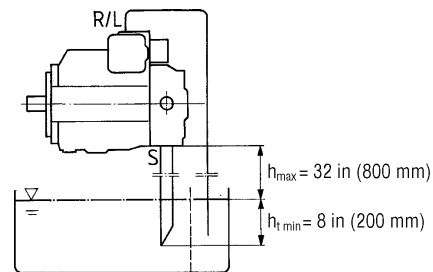

Fig. 4
b) If the minimum fluid level falls below the upper point on the pump: The leakage port and possibly the suction port are to be piped according to the fig. 4. The requirements in point 1.2. are to be met. Fill the pump housing before commissioning.
a) For mounting above the tank install as fig. 4.